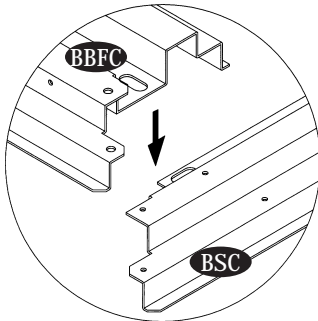

Fig.1
See fig. 1 & 2.
10. Place the base bar (BBFC) on top of (BSC) on both sides. Secure with (S1) screw to (BSC) on both corners. See fig. 1 & 2.
12. Place the entrance taper channel (ECC) on top of the (BBFC). Secure with (S2) screws to the foundation. See fig. 1 & 2.